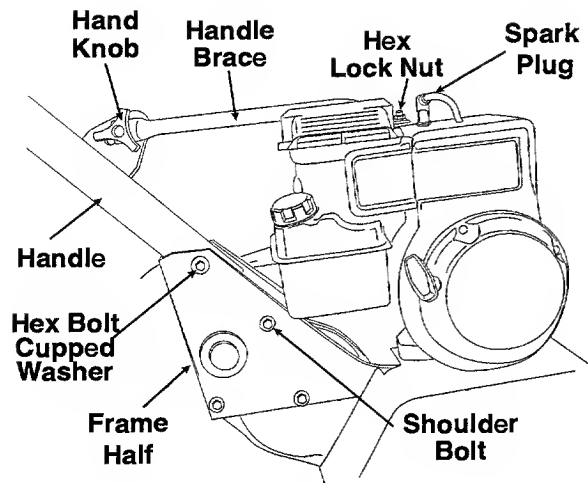

Figure 5
### ATTACHING THE HANDLE ASSEMBLY (See Figure 5)
1. Remove the hex bolt and cupped washer from the top right side of the frame halves. Hold the cable guide bracket on the left side of the frame will fall when the bolt is removed. See Figure 5.